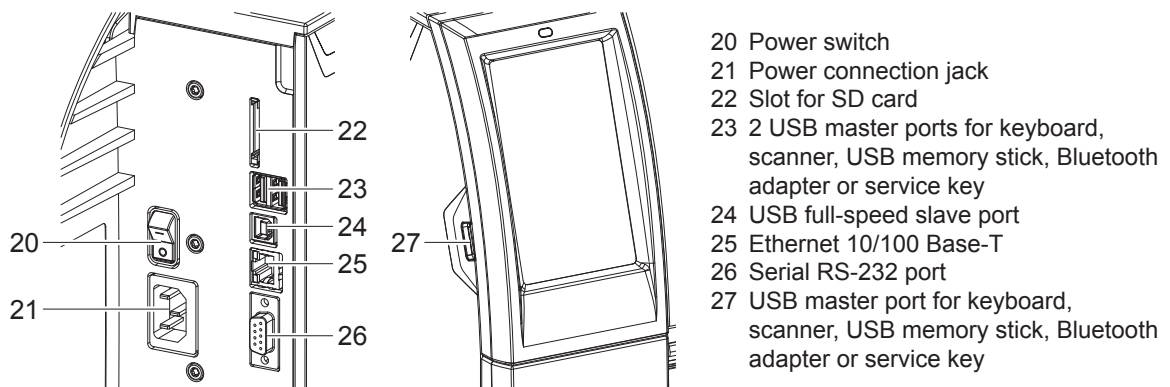

Figure 4 Connections
The standard available interfaces and connectors are shown in Figure 4.
2. Plug the power cable into the power connection socket (21/Figure 4) .
- Switch the printer on at the power switch (20/Figure 4).